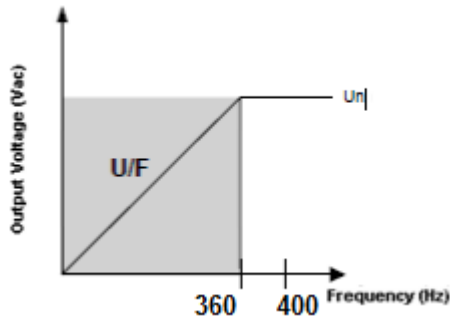

Figure 4.1: Actuation point for U/F protection
Erro! Fonte de referência não encontrada. Figure 4.1 shows the curves for voltage variation as a function of frequency variation. For nominal frequency operation, U/F is disabled. When rotation decreases (for ex. when shutting down), excitation diminishes, reducing the output voltage of the alternator. The drop follows a straight line of 7,5 V/Hz.
The **U/F** trimpot determines the trigger point of the U/F mode, which can be the nominal frequency (F_n) down to 1/3 of F_n , and leaves the factory adjusted to 10% below F_n . For operation in 400Hz it is adjusted to 360Hz (see Figure 4.1). These values can be altered according to the needs of each application.
1. Do not set the U/F protection below 20 % of the rated alternator frequency. The configuration should be done according to Figure 4.1 to avoid problems when shutting down.